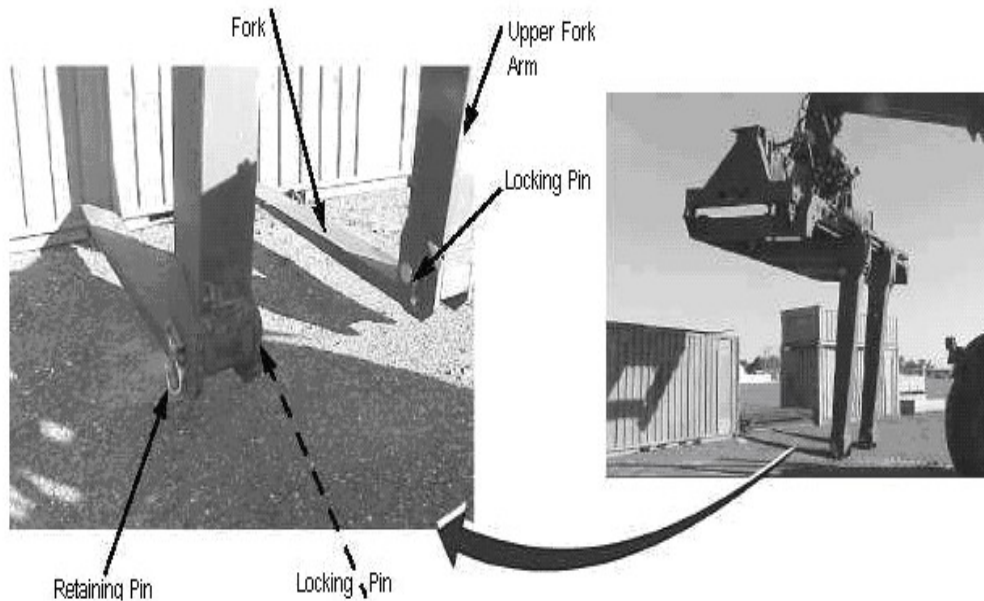

Figure 3-191
16. Install retaining pins and locking pins to secure forks to upper fork arms (see Figure 3-191).